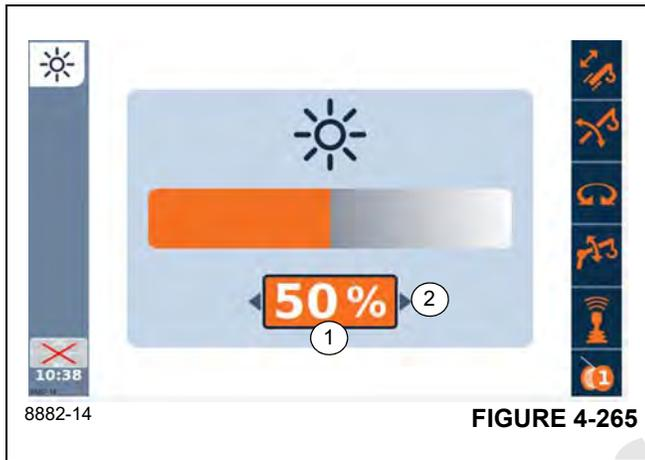

FIGURE 4-265
- Select the symbol (1), (Figure 4-265).
- An arrow (2), (Figure 4-265) appears on the left and right of the percentage (1), (Figure 4-265).
The brightness of the display changes while setting and you can view the set value (0 to 100%) on the display (1), (Figure 4-265).